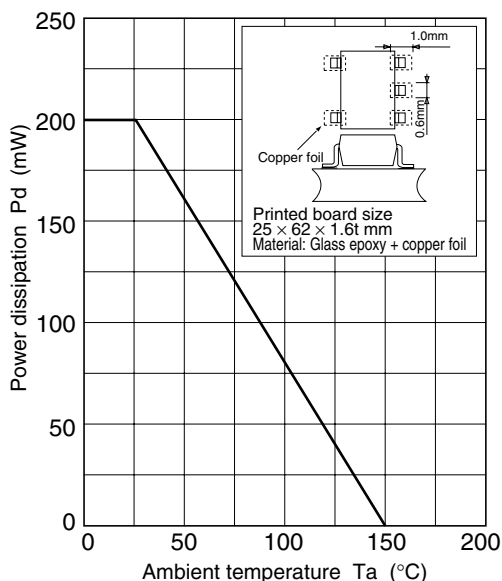

Figure 2. Power dissipation vs. Ambient temperature
2. See figure 2 in section 3.14.